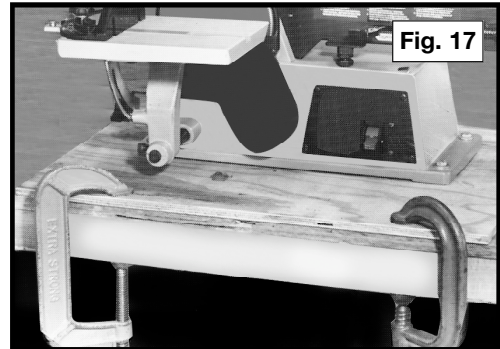

Fig. 17
- Securely clamp the mounting board to a stand or workbench using 2 or more "C" clamps, as shown in Fig. 17.